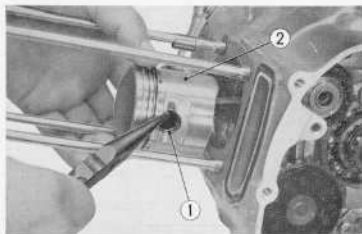

Fig. 3.49 Removing the piston pin
① Piston ② Micrometer
- Remove the piston pin clip ① and push out the piston pin to disassemble the piston from the connecting rod. (Fig. 3.49)